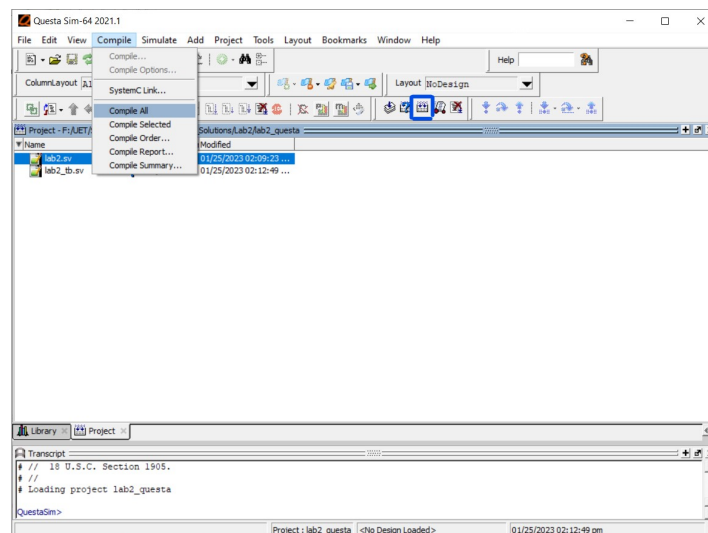
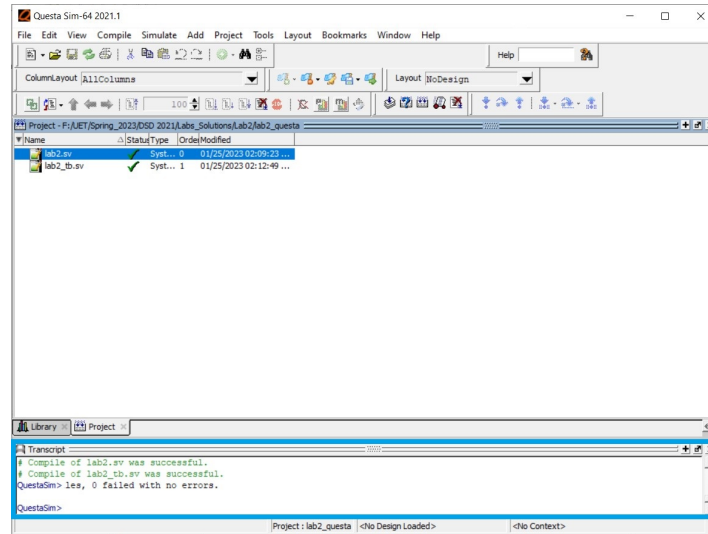

Fig. 3.8: Compiling on QuestaSim.
Fig. 3.9: QuestaSim project created.
6. Click on *compile all* (Fig. 3.8). If there are no errors the transcript will show no errors (Fig. 3.9). Otherwise the Transcript window will show the number of errors, and can be viewed by clicking on the line in the transcript which provides information about the number of errors, written in red.